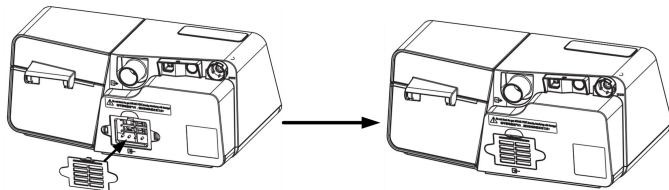

Fig. 12-3
(3) Install the filter cap containing the reusable air filter / disposable ultra-fine filter to the device, as shown in Fig. 12-3.